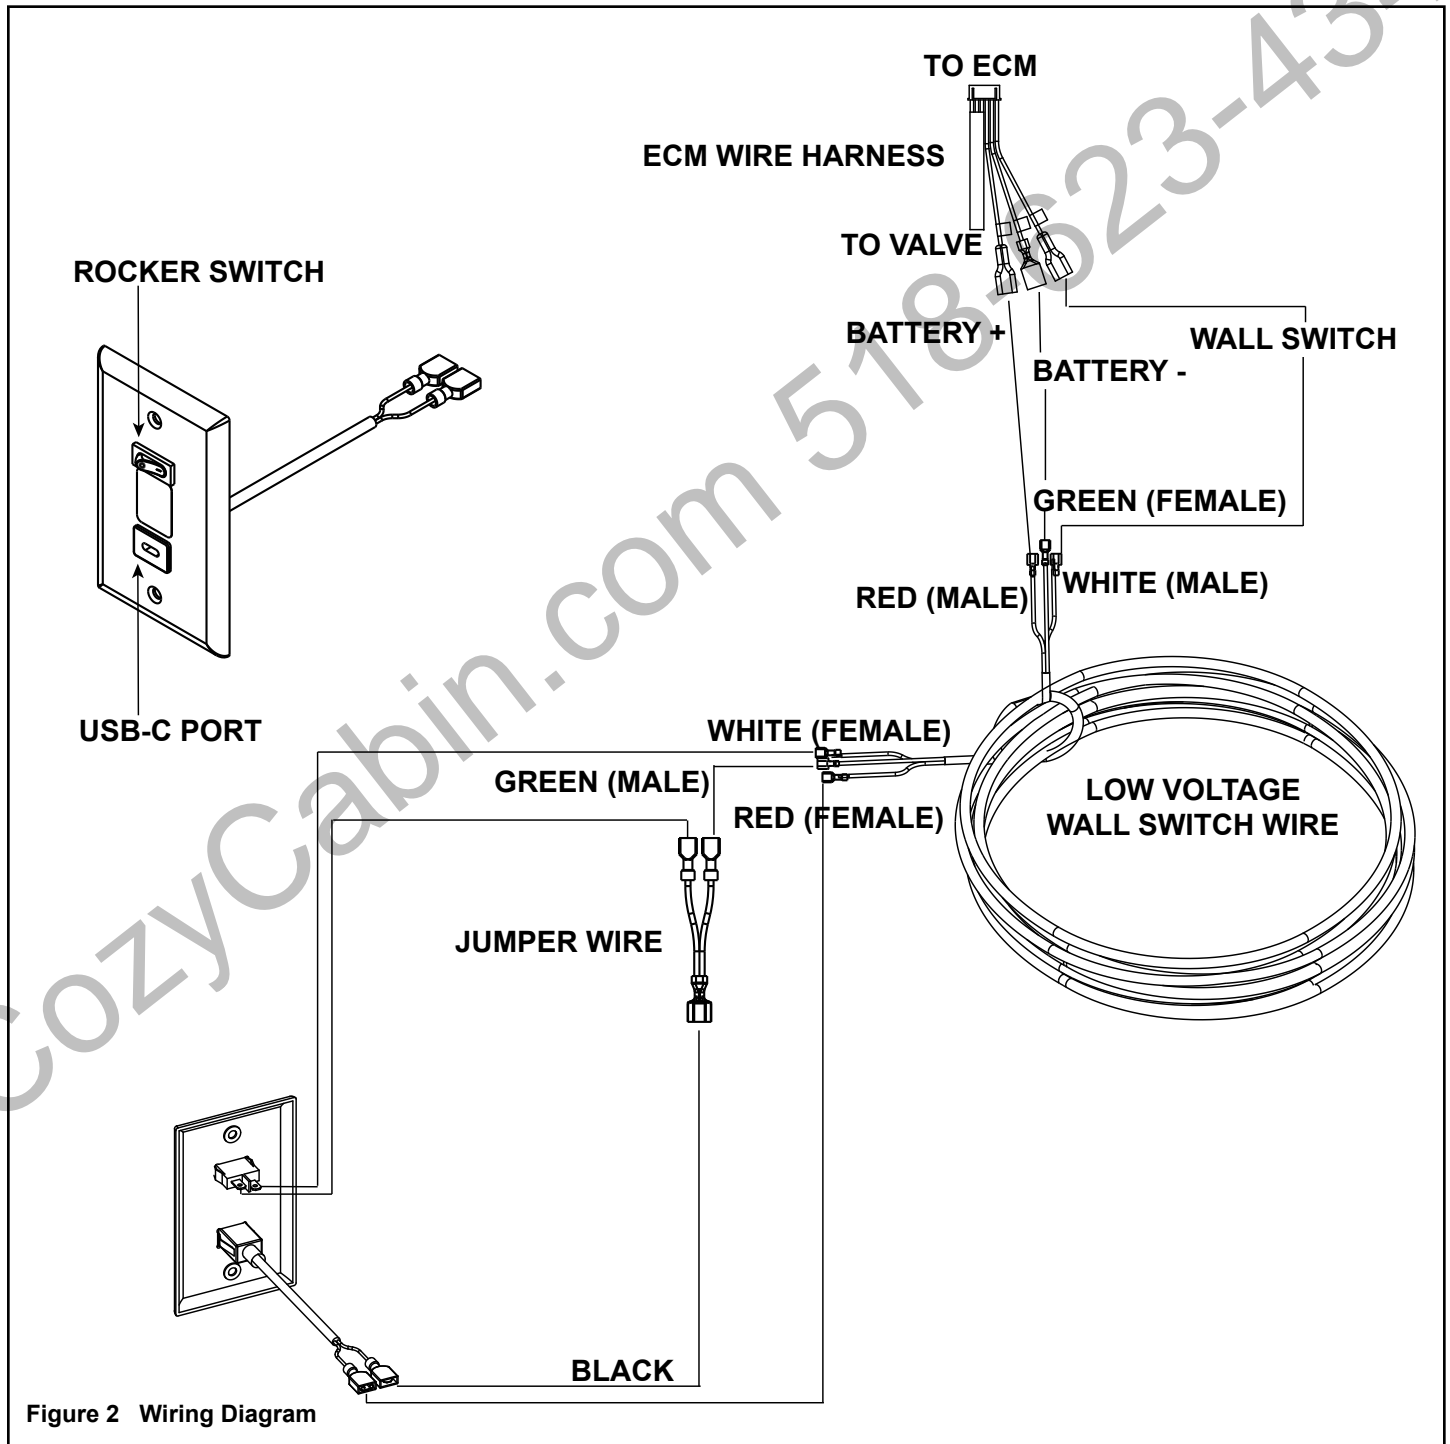

Figure 2 Wiring Diagram
3. Locate the wall switch wire from the kit. Prepare the low voltage wire ends that will connect to the ECM wire harness by crimping three terminals to it as shown in Figure 2 wiring diagram.
5. Insert the end of the low voltage wire with crimped terminals into the base of the appliance and connect it to the appropriate terminals on the ECM harness as shown in Figure 2.
6. Route the wire to the wall switch box. Cut to the appropriate length and crimp the appropriate terminals to the three wires as indicated in Figure 2 wiring diagram.
7. Make the remaining connections to the wall switch components as noted in Figure 2.